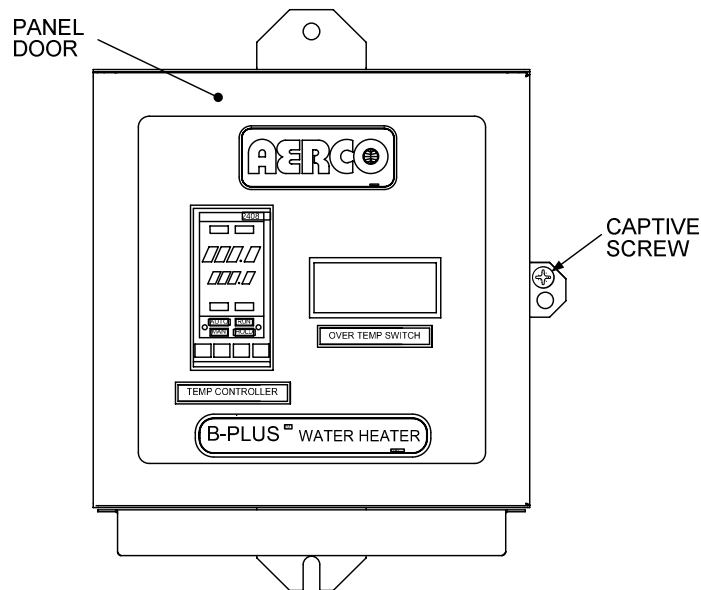

Figure 4-16. ECS Control Panel Front View
3. Next, loosen the captive Phillips head screw on the right front portion of the Control Box (Figure 4-16) to open the hinged door.